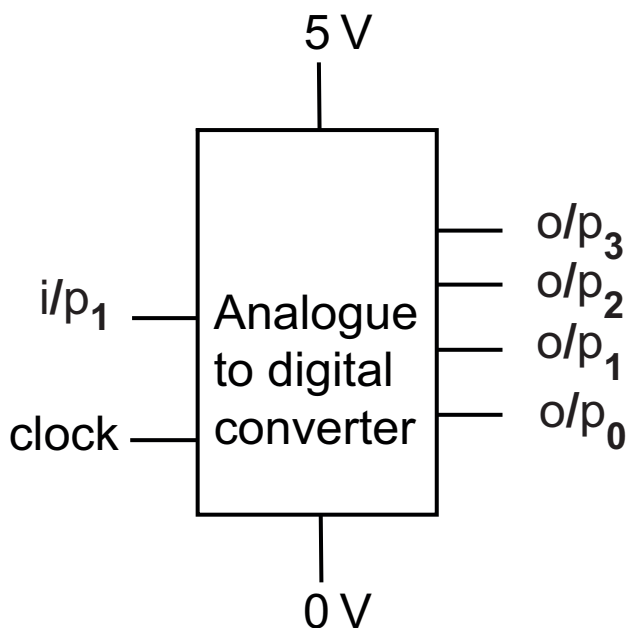
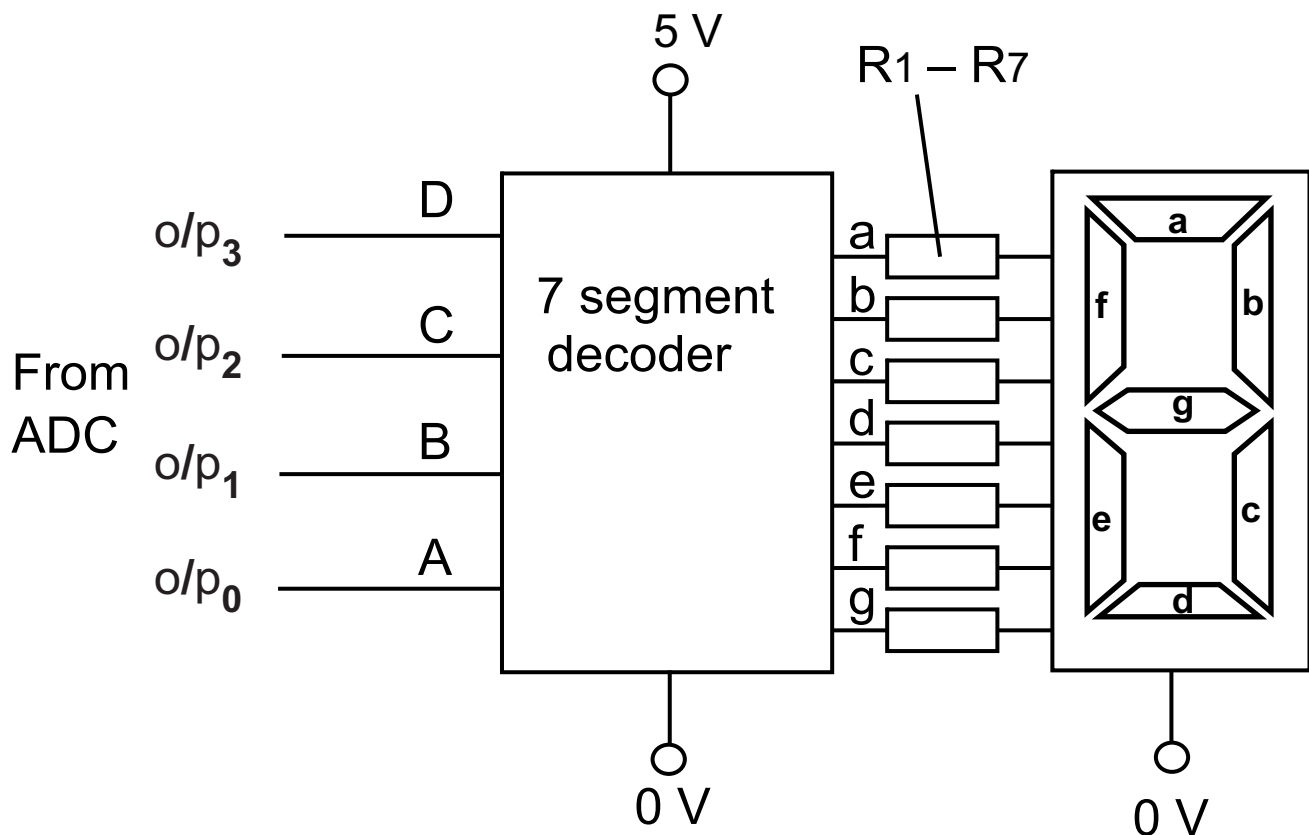

Fig. 2
Fig. 3
(b) The output V_o from the voltage divider shown in **Fig. 1** is connected to the input of an analogue to digital converter (ADC) which is shown in **Fig. 2**.
- (i) The voltage to the analogue input i/p_1 to the ADC shown in **Fig. 2** can range from 0V to 5V and the corresponding binary output ($o/p_0 - o/p_3$) range is 0000 to 1111. Calculate the 4 bit binary equivalent value that corresponds to an input voltage of 2V. [2 marks]
- (ii) The clock input on the ADC shown in **Fig. 2** is used to control the frequency of conversion. Explain with the aid of an annotated circuit diagram a method of providing a 5 volt clock pulse with a frequency of 10 Hertz. [4 marks]
(c) The binary outputs from the ADC in **Fig. 2** are connected to the inputs of a 7 segment decoder and LED 7 segment display shown in **Fig. 3**.
(i) Complete the logic truth table below for the 7 segment decoder in **Fig. 3** for the missing input D (where A is the least significant bit) and the missing output g for the displayed numeral '5'. [2 marks]
- (ii) The LED 7 segment display shown in **Fig. 3** is common cathode. Briefly explain what is meant by the term common cathode. [2 marks]
- (iii) Each segment of the LED 7 segment display in **Fig. 3** contains a single LED that operates at a forward voltage of 2.3V and a maximum current of 10mA. Calculate the value for the protective resistor required for one segment if the output voltage from the decoder is 5 V. [2 marks]
(e) The voltage divider in **Fig. 1**, and the 7 segment decoder and display in **Fig. 3** are to be used as the basis of a PIC based prototype system to control the temperature in a warehouse refrigerator. The PIC has an on board ADC with the same resolution as the ADC shown in **Fig. 2**. The temperature can be set to one of 3 preset values, (which are displayed) using a rotary switch as shown in **Fig. 4**. Once the temperature has been selected the system will check the temperature and turn on a refrigerator pump, which is driven by a 24 volt DC motor.